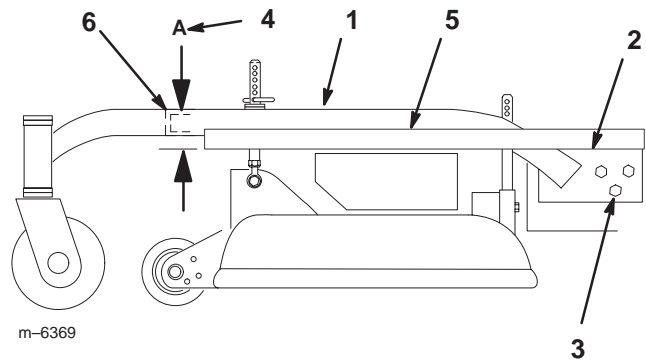

Figure 60
3. Place a long straight edge on top of the engine deck as shown in figure 60.
4. At the carrier frame cross tube, measure location A height (Fig. 60). This measurement must be 1–5/16 inch (33 mm), plus or minus a 1/4 inch (6 mm).
6. Loosen the carrier frame mounting bolts on both sides of the machine (Fig. 60).
7. Align the carrier frame and engine deck to match 1–5/16 inch (33 mm), plus or minus a 1/4 inch (6 mm) at location A (Fig. 60).